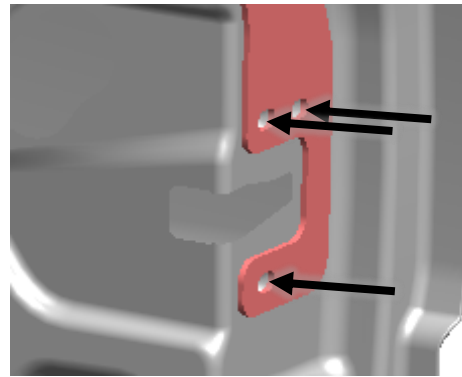

Figure 30: Latch Bolts Installation
- 24. Install lower three (3) M6-1.0 x 16mm bolts with washers through the bracket into the center latch (Reference Figure 30).